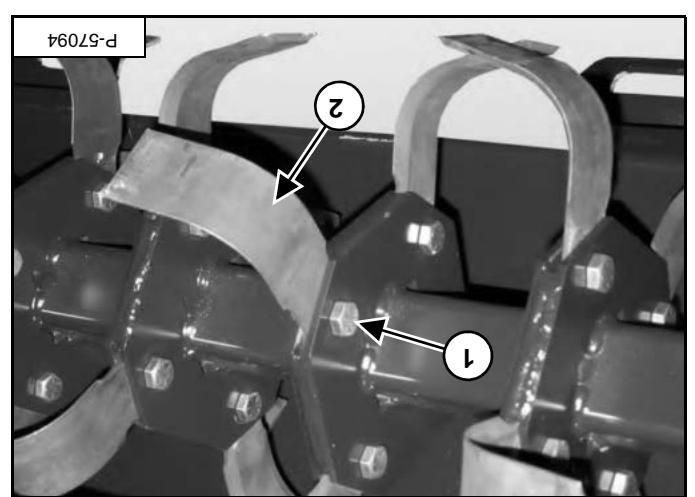

Figure 83
Remove the tine (item 2) [Figure 83].
Remove the bolt (item 1) [Figure 83].